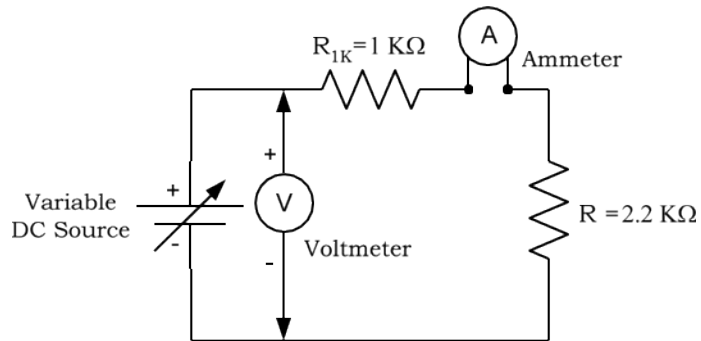

Figure 1.8: Verification of Ohm's Law
- Construct the circuit of Figure 1.8. Do not switch on the power supply.